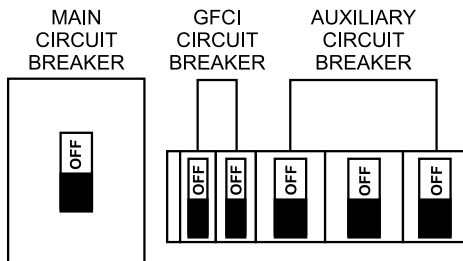

Figure 40. Main, Aux. and GFCI Circuit Breakers (OFF)
1. Place the **main, G.F.C.I., and aux.** circuit breakers (Figure 40) in the **OFF** position prior to starting the engine.